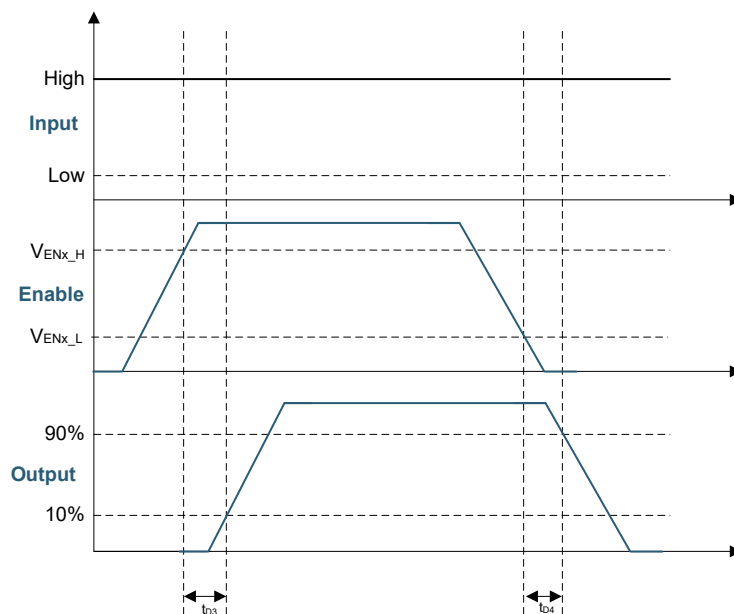
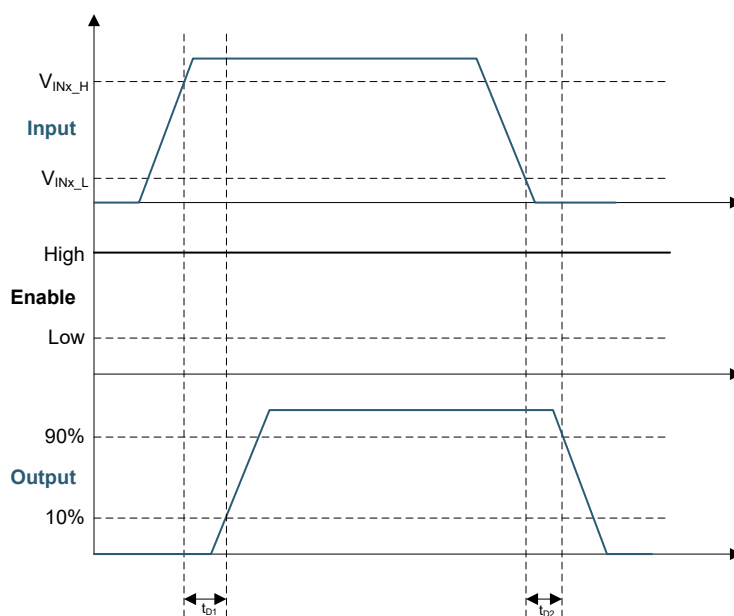

図 5-1. Enable Function
図 5-2. Input-Output Operation
- (1) Switching parameters are not tested in production.
(2) See the timing diagrams in Figure 5-1 and Figure 5-2.